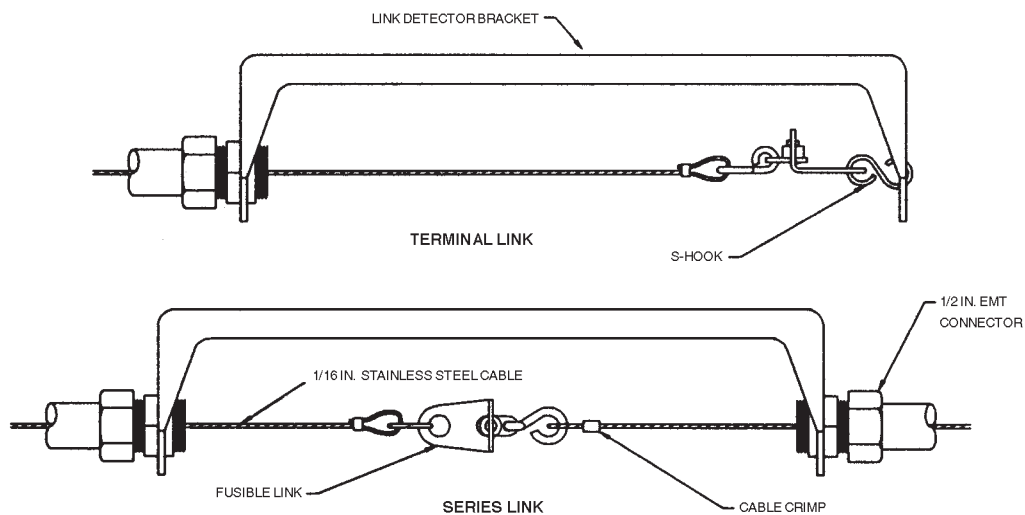

Figure 2-10. Model FLK-1 Fusible Link
- ▶ bracket, two (2) 1/2 in. EMT connectors, two (2) cable
- ▶ crimps, and two (2) “S” hooks. Fusible links must be ordered
- ▶ separately. See Figure 2-10.